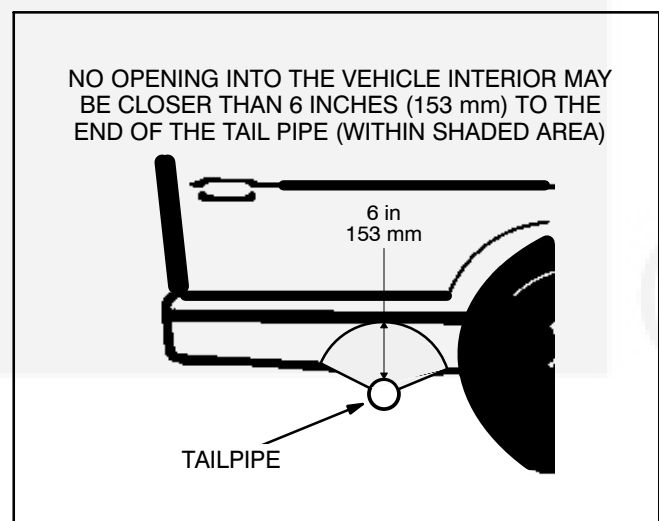
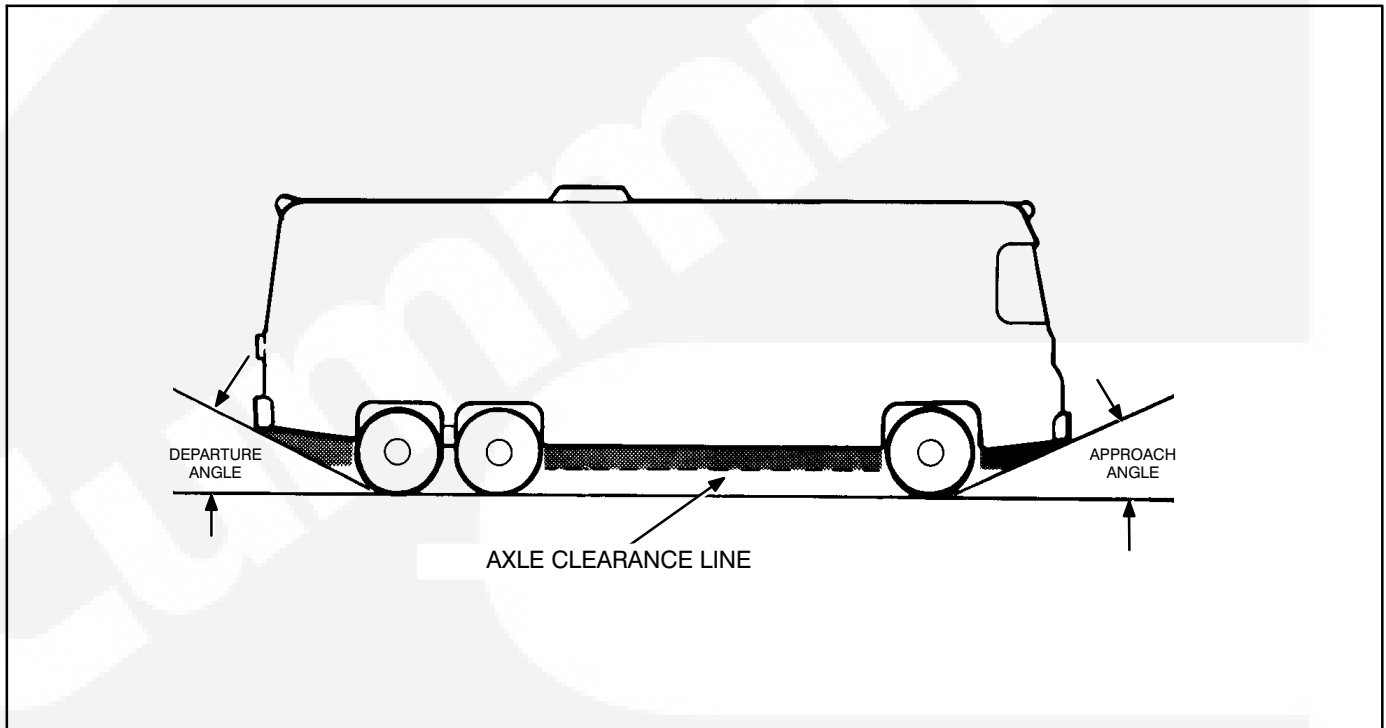

FIGURE 6. MINIMUM DISTANCES TO OPENINGS
FIGURE 7. APPROACH AND DEPARTURE ANGLES AND AXLE CLEARANCE LINE
⚠ WARNING ***EXHAUST GAS IS DEADLY! To keep exhaust gases from entering the vehicle do not terminate the exhaust tailpipe underneath the vehicle or closer than specified to openings into the vehicle (Figure 6) or route it such that it is likely to be damaged (Figure 7). Use approved materials and parts only.***
9. Do not terminate the tailpipe such that it is closer than 6 inches (153 mm) to any opening into the vehicle interior (door, window, vent). See Figure 6.
10. Route the tailpipe such that it is not likely to be struck when the vehicle is moving. Keep it out of the approach and departure angles of the vehicle and above the axle clearance line (Figure 7).